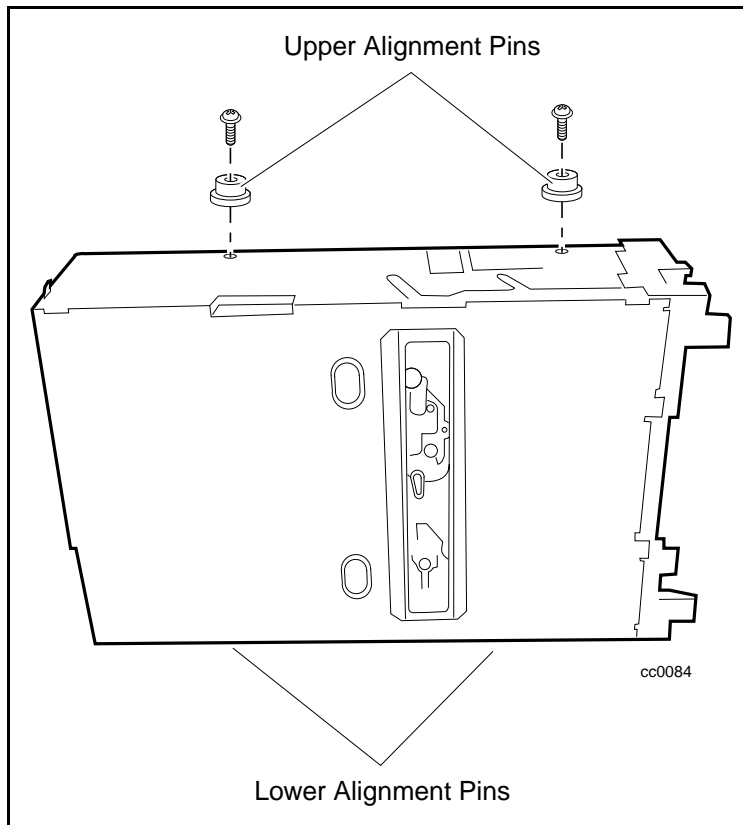

Figure 5-14. Removing the alignment pins
- Remove the four alignment pins for installation on the replacement tape drive (see Figure 5-14).
NOTE: The alignment pin is an assembly made of a plastic spacer ("top hat") and a screw (see Figure 5-14).
- Install the four alignment pins on the replacement tape drive (see Figure 5-14).